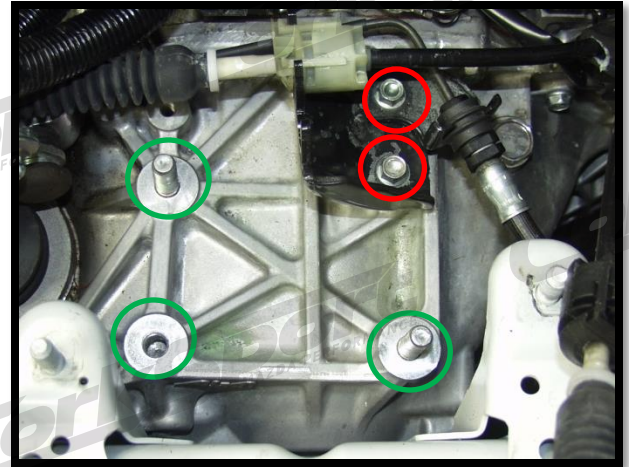

Figure 5a
- a) **Remove the two (2) shifter cable bracket bolts** with a 12mm socket wrench and long extension (Figure 5a).
- a) Remove the two (2) shifter cable bracket bolts with a 12mm socket wrench and long extension (red circles in Figure 5a).